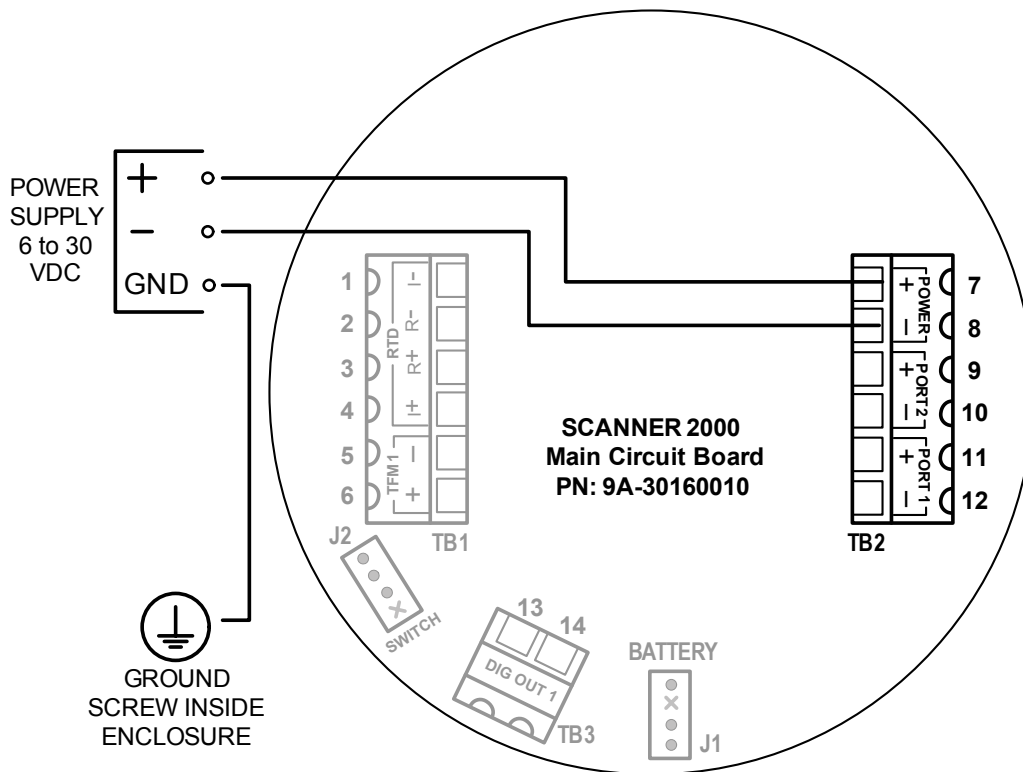

Figure 3.3—External power supply wiring
5. Connect wiring for external power, if appropriate. See Grounding Procedures, page 62, and see Figure 3.3, page 64 for a wiring diagram.
The Scanner 2000 can be connected to a remote power supply by a two-conductor cable (Figure 3.3). The power supply and cable must be capable of supplying 6 to 30 VDC @ 50 mA.